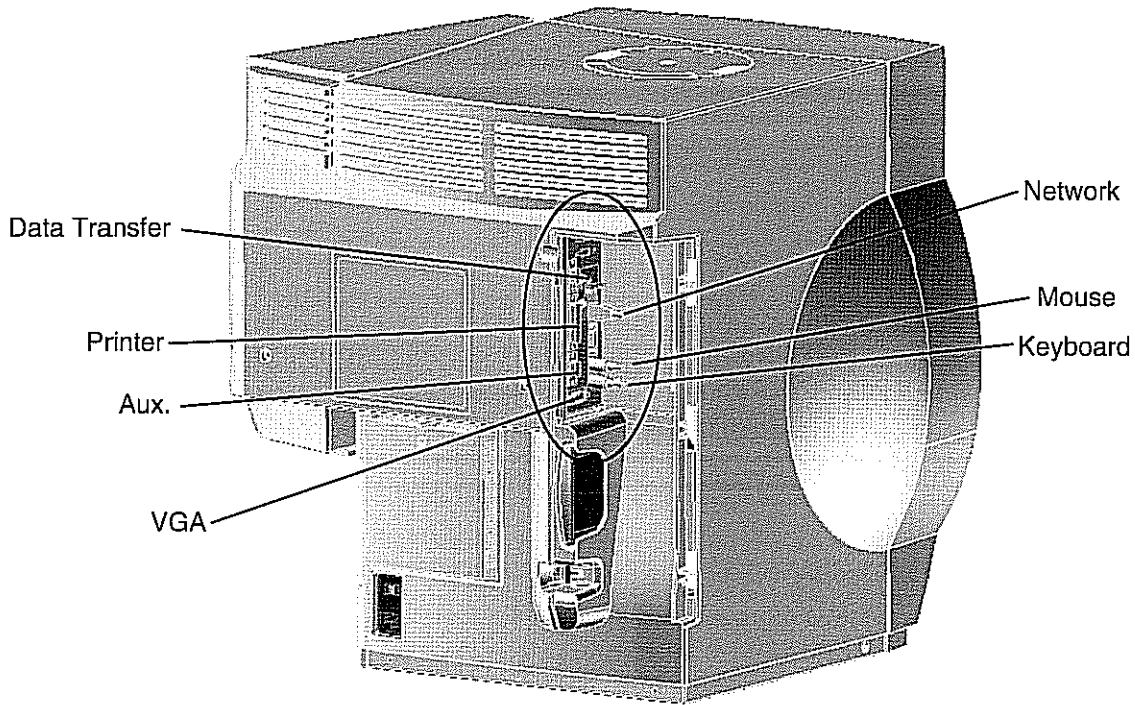

Figure 1.7: Rear View of the HEA II with panel removed
1. With power off to the table and HFA II, connect the printer interface cable to the Printer port on the HFA II. Attach the power cord to the special outlet below the table for the table-mounted Printrex printer. Refer to Figures 1.7, 1.8 and 1.9. The power cord for the stand-alone model plugs into the wall outlet.
1. With power off to the HFA II, connect the interface cable to the Printer port on the HFA II (refer to Figures 1.7 and 1.8) and the printer (refer to Hewlett-Packard printer manual).
The HFA II supports an external keyboard. The keyboard plugs into the back of the HFA II (refer to Figure 1.7 and 1.8 for the location of the plug).
Your HFA II allows you to connect an external VGA monitor. Commands issued with the keyboard and trackball / mouse can be seen on the external screen. Touch screen capability is not available on the external monitor. The HFA II touch screen remains available for use when using the external monitor. Output to the external monitor will display in black & white, even when using a color monitor. Connection of the VGA monitor is made to the port found on the back of the HFA II. See Figures 1.7 and 1.8. Use the VGA connection.
External devices connect to the HFA II at the rear of the instrument and are hidden from view behind a panel. Figures 1.7 and 1.8 show the location and identification of many of the connectors previously mentioned. A diagram next to the panel helps to identify each port.